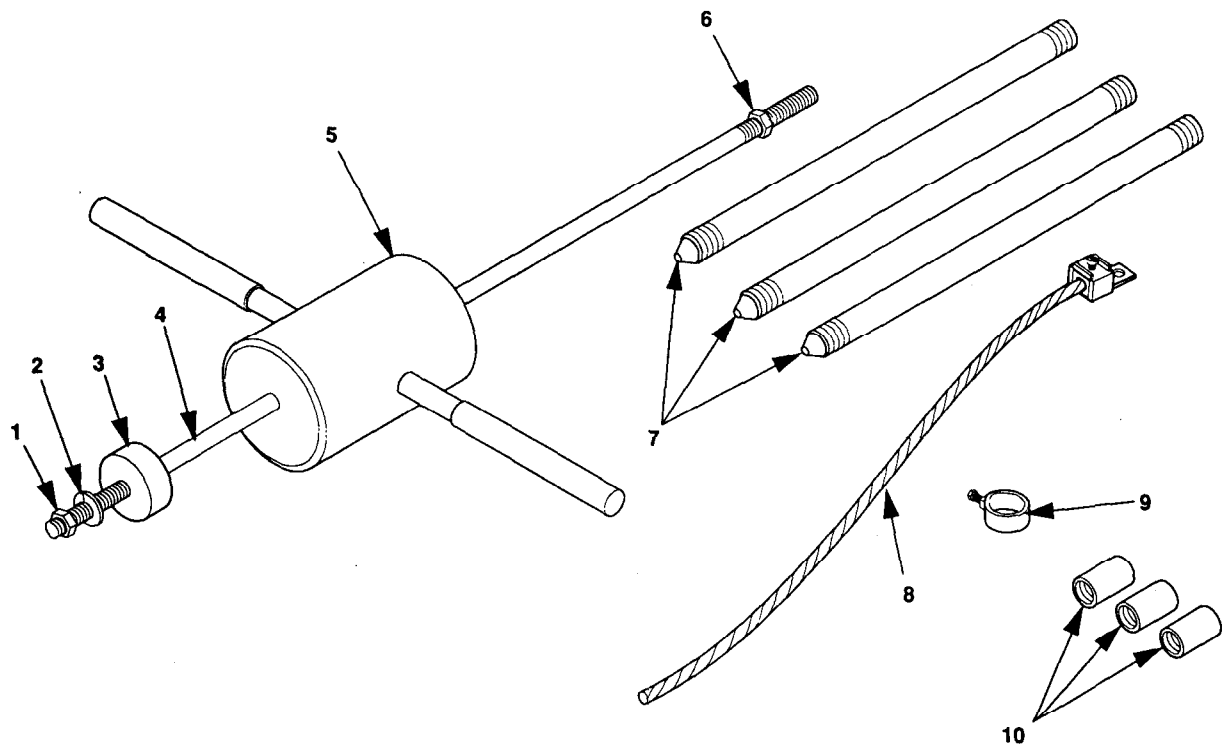
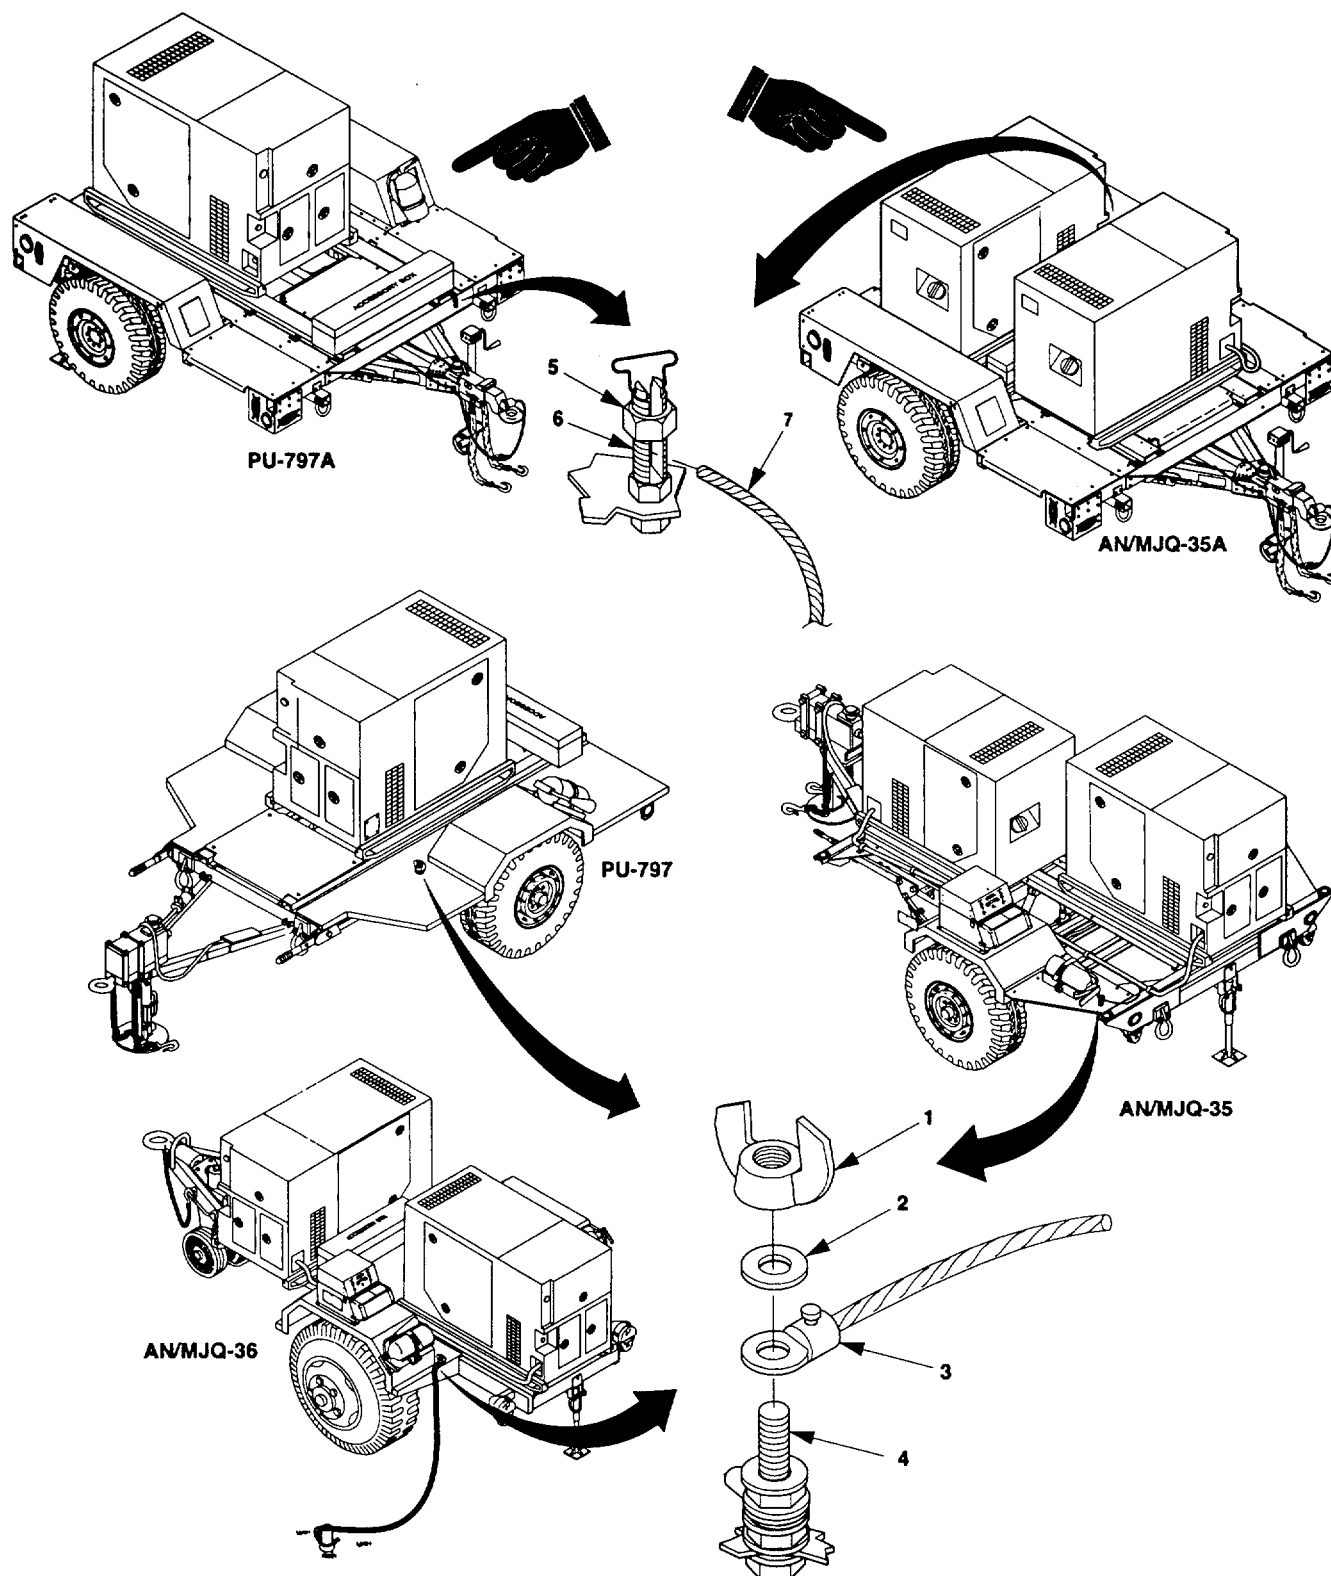

Figure 2-7. Ground Rod and Slide Hammer.
Figure 2-8. Power Plant and Power Unit Ground Connections.
2-3.3 Grounding of Generator Set. Ground the equipment in accordance with Army Field Manual FM 20-31. Typical ground rod installations are shown in figure 2-8. If a ground rod is used, install and connect it as follows:
- a. Remove ground rod, grounding strap, and slide hammer (figure 2-7) from accessory box. Perform assembly steps (1) through (4).
- (1) If the high mobility trailer (AN/MJQ-35A or PU-797A) is being used, perform steps (5) and (6). Otherwise perform steps (2) through (4).
- (2) Remove and retain wing nut (1, figure 2-8) and flat washer (2) from trailer ground stud (4) and install ground cable terminal lug (3) to ground stud (4).
- (3) Install flat washer (2) on ground stud (4).
- (4) Install wing nut (1) on the ground stud (4) and tighten.
- (5) Loosen nut (5) on high mobility trailer ground terminal (6).
- (6) Insert wire (7) through slot of ground terminal (6) and tighten nut (5).
- i. Disassemble slide hammer as follows: (1) Remove nut (6, figure 2-7) from end of rod (4) and retain.
- (2) Remove hammer (5) from rod (4) and thread nut (6) on end of rod to prevent loss.
- (3) Store hammer (5) and rod (4) with assembled parts in accessory box.